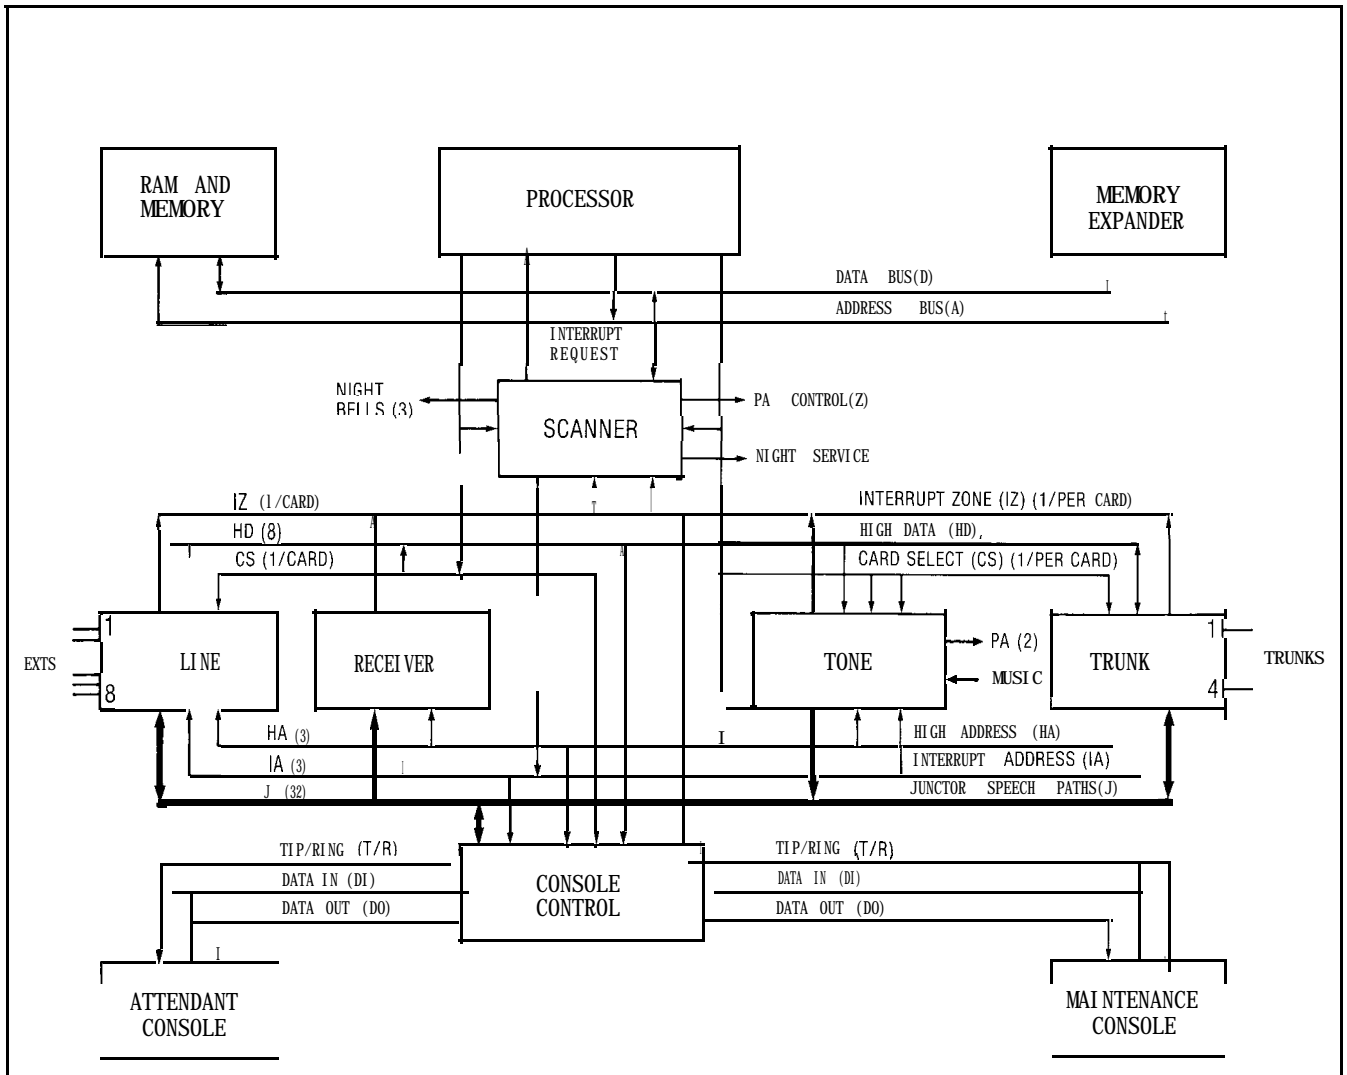

Fig. 8-2 Call Processing Block Diagram
NOTE: The above symbols are used in conjunction with the text description and Fig. 8-2.
8.03 The PABX uses a specially-developed large scale integrated (LSI) circuit to implement a space-division switching matrix. The basis of this space division is a four-by-eight bit analog cross-point switch (MITEL MT8804) which is used throughout the system to connect any one of thirty-one speech paths to any one (or more) extension, trunk, console, receiver or tone generator circuit(s). Such connections are controlled by the microprocessor via its data and address lines. These, together with the card select, interrupt, power and other lines, run the length of the equipment shelf backplane and are available as required to each circuit card. See Table 8-1 and Fig. 8-2 for a description of the backplane signals.
8.08 Fig. 8-2 and Table 8-1 should be consulted when reading the descriptive material. In addition the following abbreviations have the meanings indicated in the text:
- GS/LS Refers to trunk circuits with a "ground-start" (GS) or "loop-start" (LS) facility